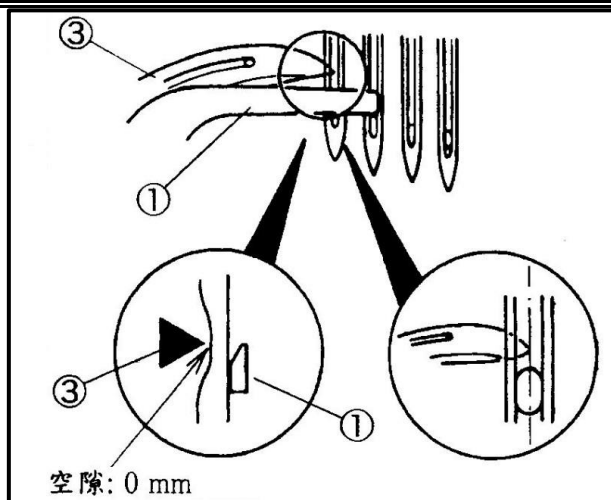

Fig.56
Check the looper tip touches the back of the needle and the does not swing to the right when the looper ③ moves from the left to the right while rotating the handwheel. (Fig.56,57)